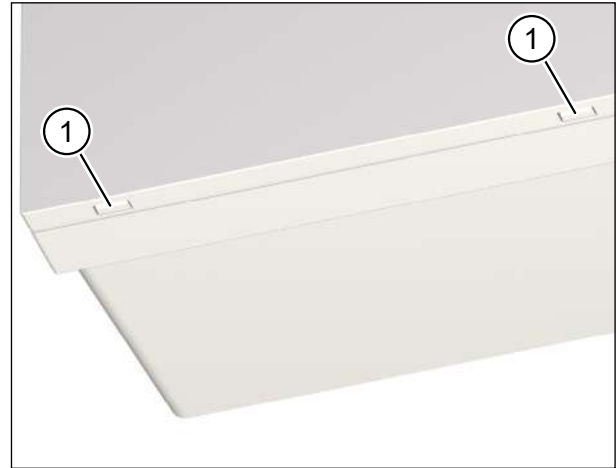

Fig. 19: Removing the unit cover from the ventilation unit
- ▶ Using both thumbs, press the two latches (item 1 in Fig. 19) on the bottom of the ventilation unit. The unit cover will come away.